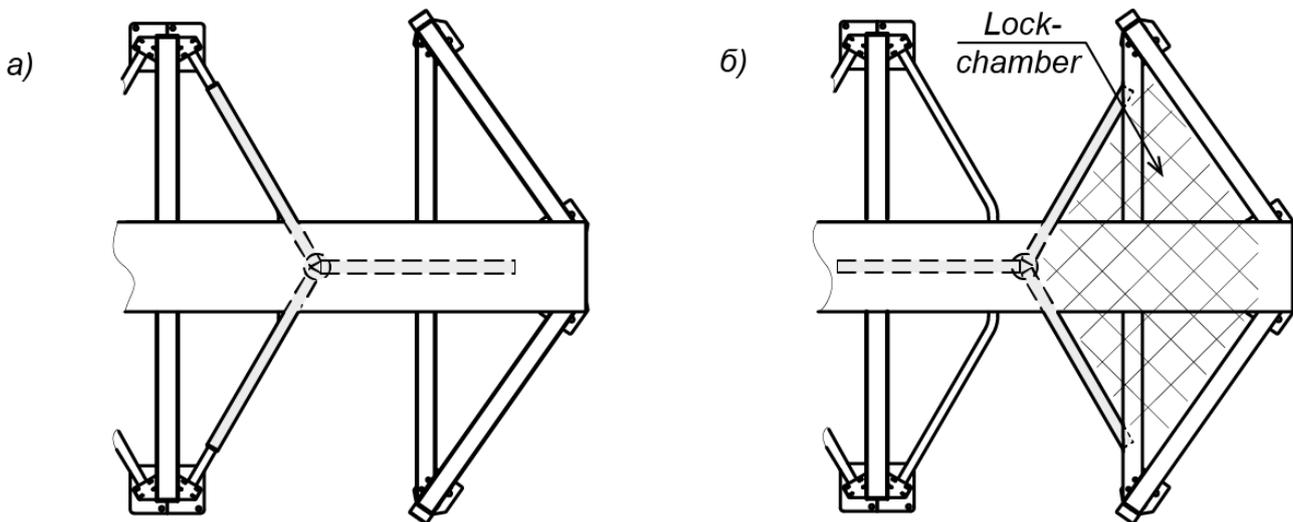

Figure 22. Home position of the turnstile wing panels (the view from above):
- Adjust the rotor section in accordance to the selected passage mode (Sect. 8.5, Fig. 22) given the match of the edges of upper rotor shaft and the edges of drive shaft.
3. Rotate the rotor 180° (Fig. 22).